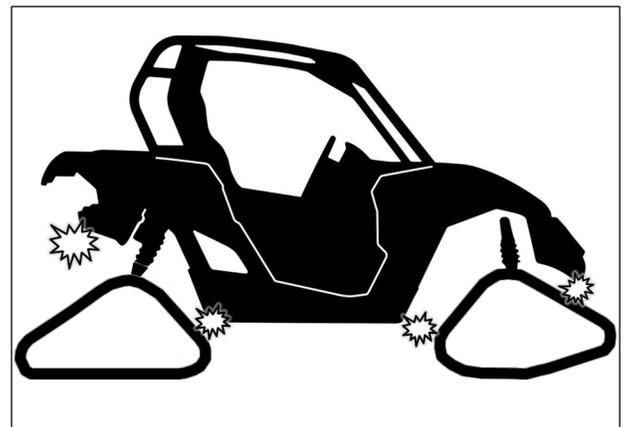

Fig. 29
2. Verify for possible contact between Track System and lower fender corners. See Fig. 29